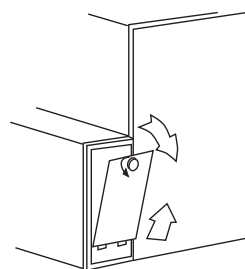
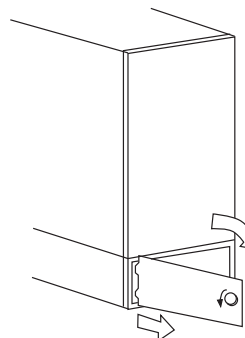

Fig. 13 – Removing Side Filter Cabinet Door
Fig. 14 – Removing Bottom Filter Cabinet Door
3. Remove filter cabinet door, see Fig. 13 and Fig. 14